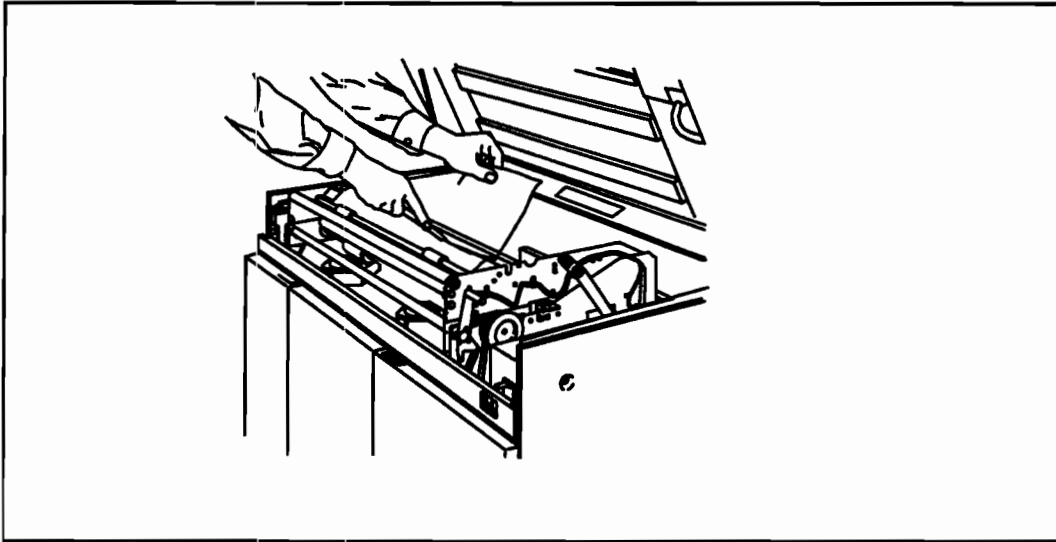
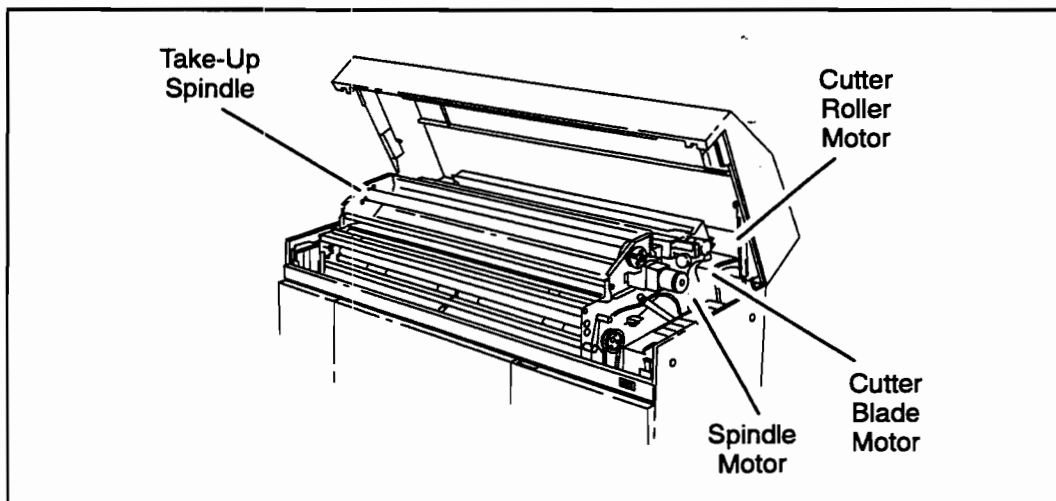

Figure 3-27. Cutting the Media
Figure 3-28. Upper Frame Assembly
14. For the Model 240D or 240E, use the media cutter from the supplies box, and cut the excess media off flush along the groove in the guide as shown in Figure 3-27. For the Model 250/255 See Figure 3-28 for the different upper frame assembly, and determine whether the plots are to be rolled or cut into sheets. If the plots are to be rolled, follow the steps under paragraph 3-39. If the plots are to be cut into sheets, follow the steps under paragraph 3-43.